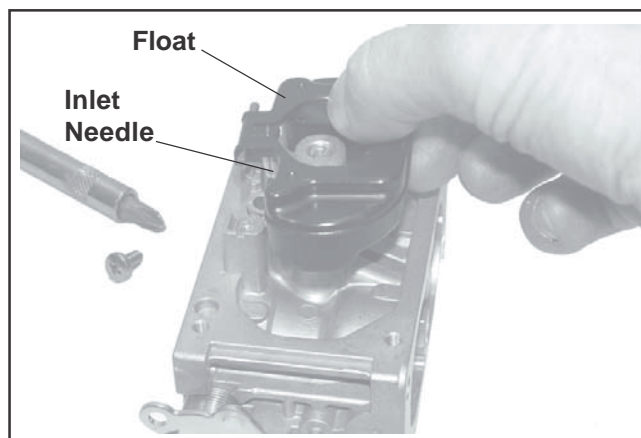

Figure 5-13. Removing Float and Inlet Needle.
3. Remove the float pin screw and lift out the old float, pin and inlet needle. See Figure 5-13. Discard all of the parts. The seat for the inlet needle is not serviceable, and should not be removed.